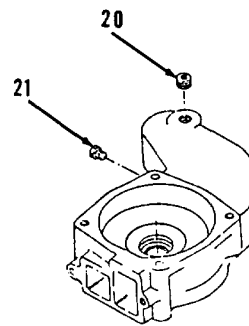

Figure 3-194.
20. Remove plugs (20 and 21, Figure 3-194).